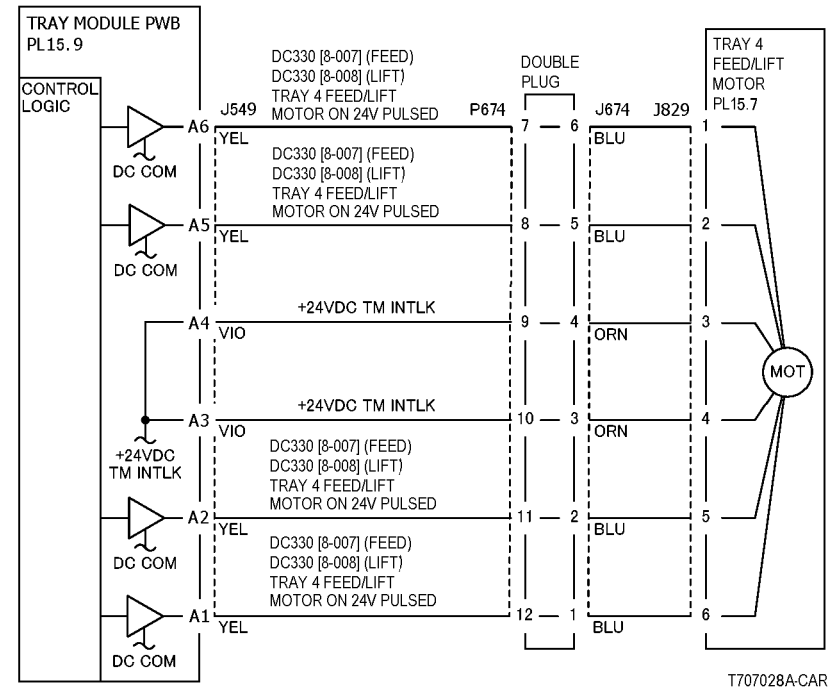
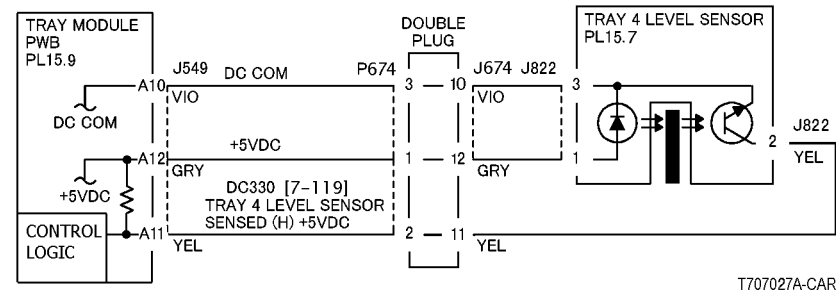

Figure 1 Tray 4 Feed/Lift Motor CD
Figure 2 Tray 4 Level Sensor CD
- Ensure that the connectors shown in the circuit diagrams (Figure 1, Figure 2) are securely connected and that the wires are not damaged.